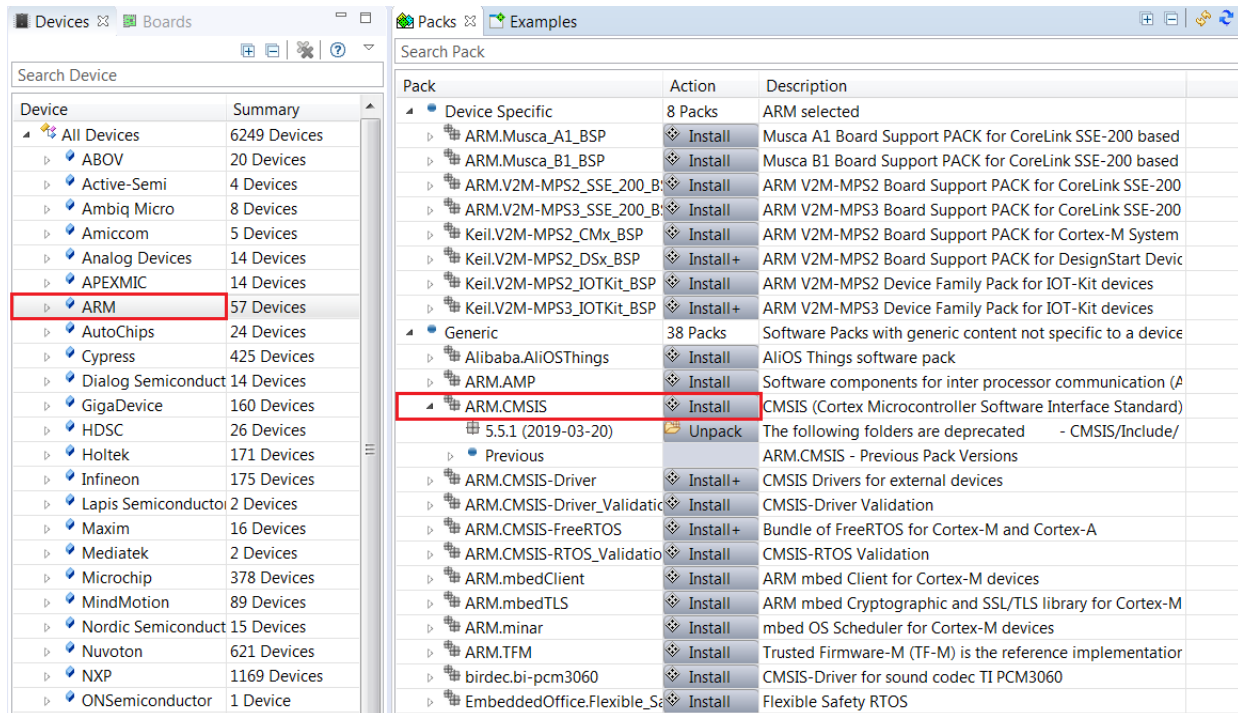

Figure 41. Installing the Arm CMSIS-Pack
2. To manually install a CMSIS-Pack, select the **Packs** tab and search for the required CMSIS-Pack (in this example, we installed the *ARM.CMSIS* pack); click the **Install** button (shown in Figure 41). Alternatively, follow the next steps to automatically resolve any Pack dependencies that are missing.